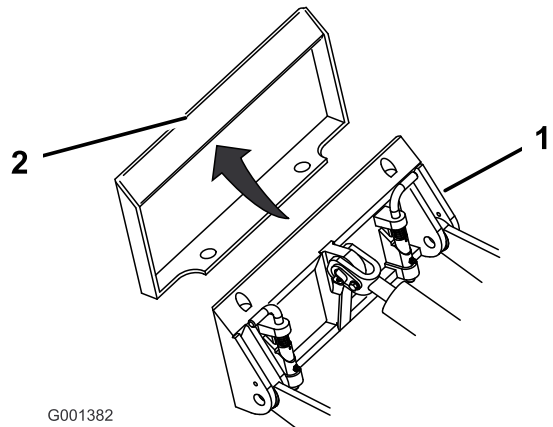

Figure 5
4. Position the mount plate into the upper lip of the attachment-receiver plate (Figure 5).